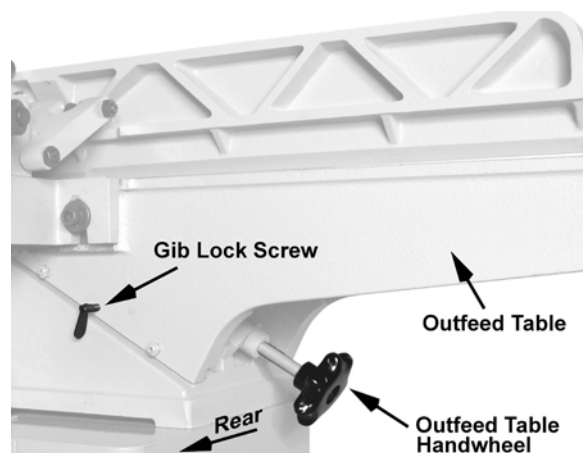

Figure 20
5. Loosen both *gib lock screws* (Figure 20).
7. Lock the *outfeed table* to this height setting by tightening the *gib lock screw* (Figure 20). The outfeed table adjustment is complete.